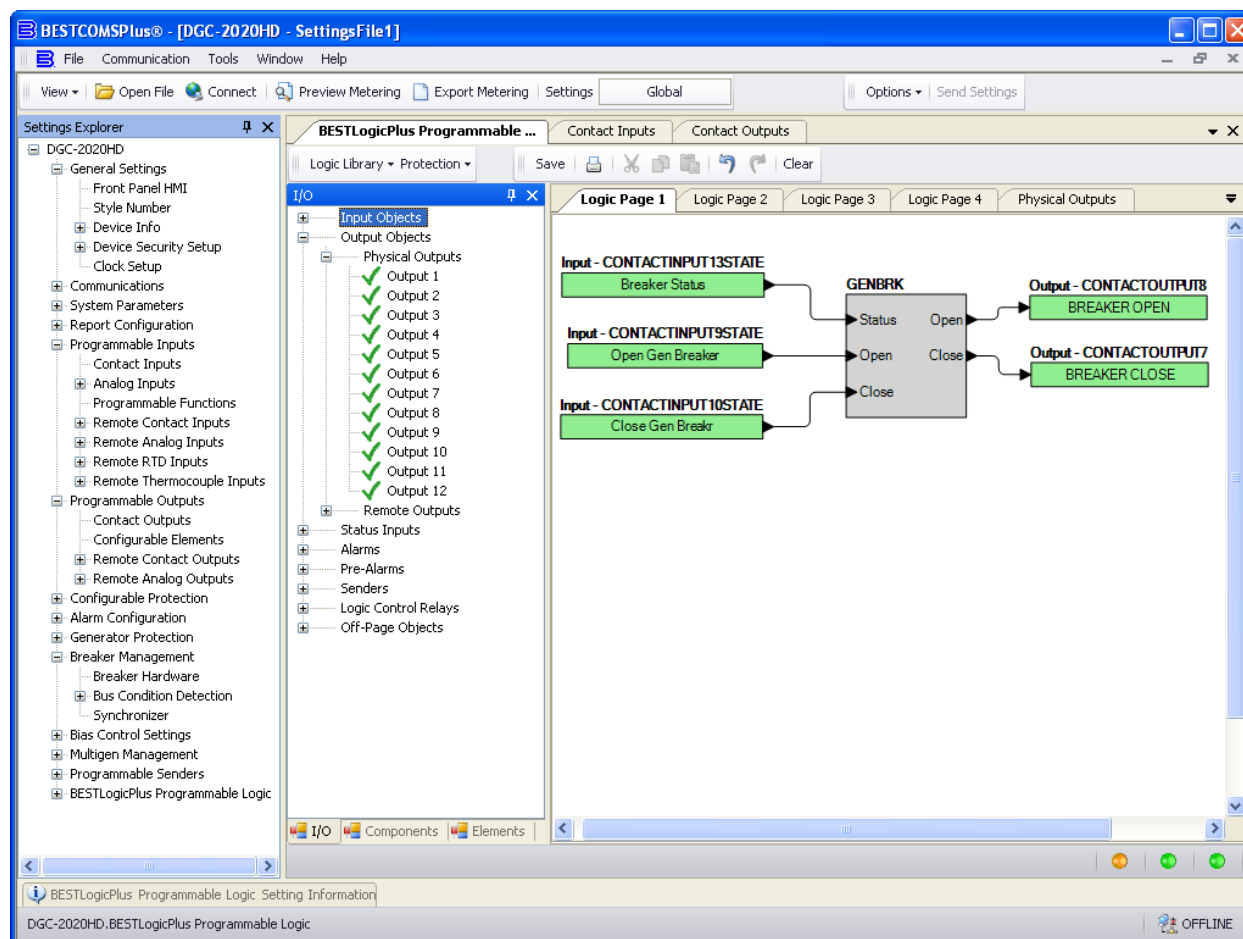

Figure 56. Synchronizer Setup in BESTlogicPlus Step 13
13. Click on the I/O tab and drag the inputs assigned in step 3, above, into the main logic screen. Connect them to the appropriate inputs of the GENBRK block. Drag the outputs assigned in step 4 into the main logic screen and connect them to the appropriate outputs of the GENBRK block. See Figure 56.